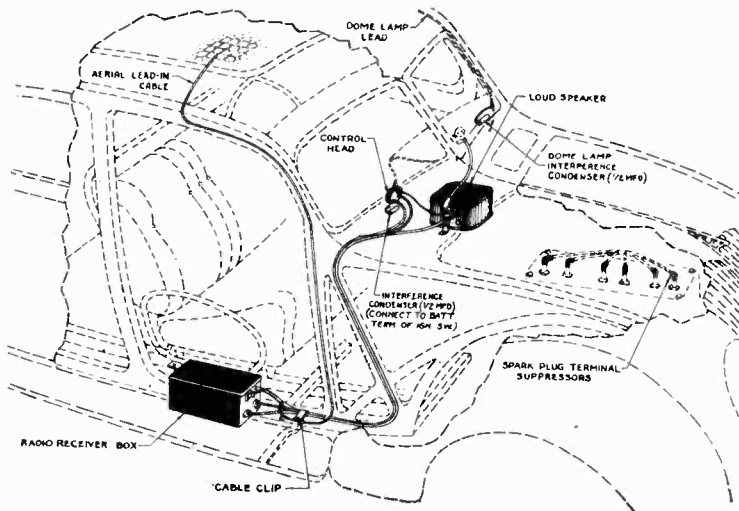

FIGURE 4
4. Remove the right cowl quarter kick-pad. Then run the cables along the body side rail under the floor board and up through the opening in the floor board riser provided for the speedometer cable. See Fig. 4. In bodies where the hole in the toeboard riser is not large enough or obstructed and will not permit the passage of the plug on the speaker end of the cable it will be necessary to remove the floorboard and make a 1/2" slot in the toeboard riser into the speedometer cable channel to allow the cables to be assembled in place. Do not attempt to remove the plug from the end of the cable. Fasten them in the clips provided